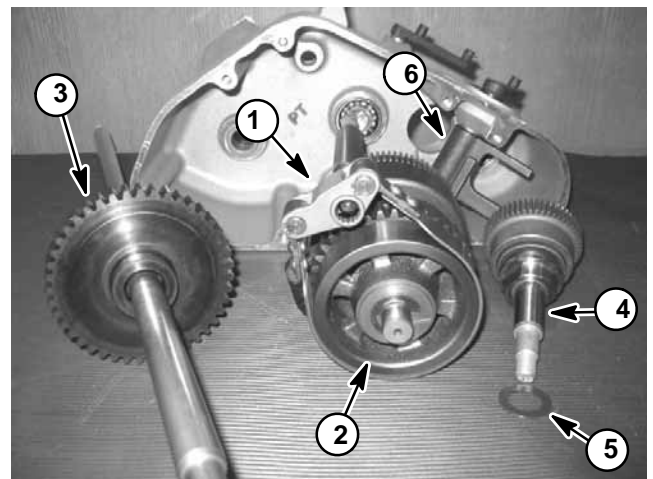
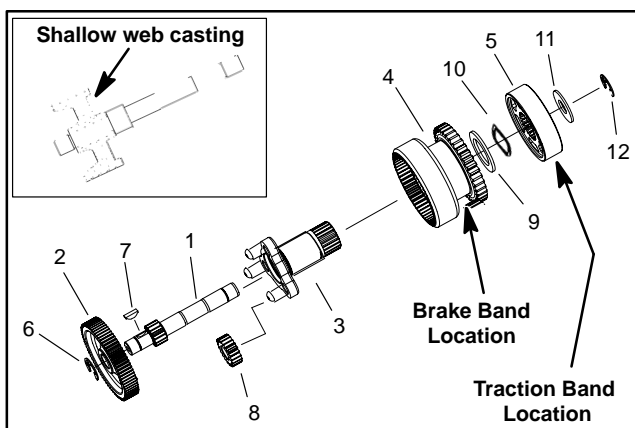
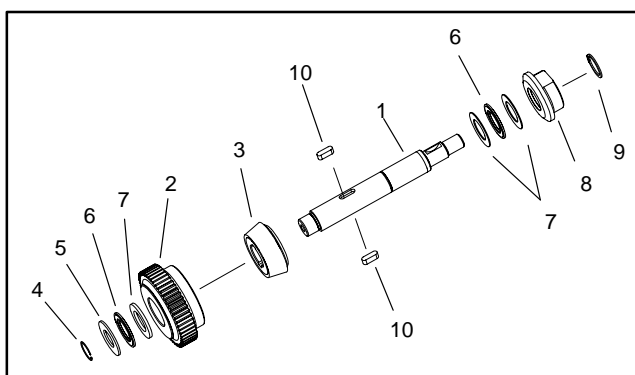

Figure 24
Figure 25
Figure 26
7. Carefully remove traction shaft from the gearbox taking care to not distort traction band (Fig. 24). **Note:** On Flex 21, if gearbox is still attached to engine, traction lever on engine side of gearbox must be loosened and removed as traction shaft is removed from gearbox.
8. Slide differential assembly from gearbox (Fig. 24).
9. Pull planetary assembly (with parking brake band and shaft) from gearbox (Fig. 24). **Note:** Remove parking brake lever if still attached to brake shaft.
10. Use Figure 25 as a guide to remove components from planetary assembly. If input gear is removed, note orientation on shaft.
11. Remove retaining rings that secure link to clutch bellcrank and clutch fork shaft (Fig. 24). Remove link.
12. Rotate clutch fork shaft to allow removal of reel drive clutch shaft assembly from gearbox base (Fig. 24). Use Figure 26 as a guide to remove components from clutch shaft.
1. Replace all removed oil seals, bushings and bearings in the gearbox cover and base. **Note:** The oil seal for the reel drive clutch shaft is a red/orange color to differentiate it from other similarly sized seals in the gearbox. Oil seals should be installed flush or slightly recessed in seal bore. If seal is secured with retaining ring, install retaining ring. If clutch shaft caged needle bearing in gearbox base is replaced (item 3), closed end of bearing should be flush with outside of base after installation.
3. If clutch shaft was disassembled, use Figure 26 as a guide to install components to clutch shaft. Install clutch shaft assembly into gearbox base and rotate clutch fork to plunger hub. Place thrust washer on cover end of shaft.
4. Attach link to fork shaft and bellcrank. Secure with two (2) retaining rings.
6. If planetary assembly was disassembled, use Figure 25 as a guide to install components to planetary assembly. If input gear was removed, install with shallow web casting toward sun gear.